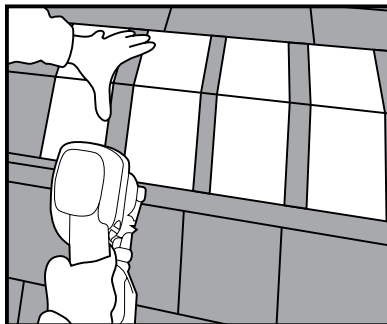

Fig. 6
**Note:** When nailing the shingles, ensure corrosion resistant, 11 or 12 gauge nails are used with heads at least  $\frac{3}{8}$  inch in diameter. All fasteners must be flush with the shingle surface and penetrate  $\frac{3}{4}$  inch into the wood deck or  $\frac{1}{8}$  inch through APA rated roof sheathing. Cap shingles should be installed per the shingle manufacturer's installation instructions. See Figure 6.